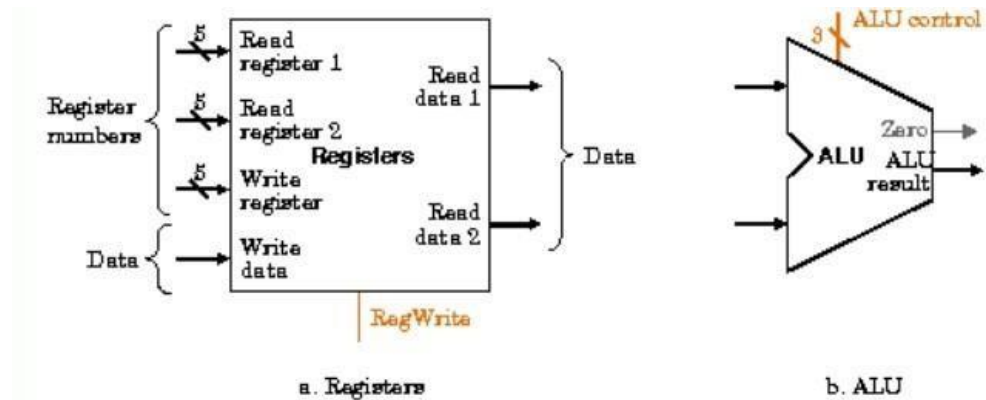

Fig 3.5: The two elements needed to implement R-format ALU operations are the register file and the ALU.
- ❖ If the instruction is a store, the value to be stored must also be read from the register file where it resides in \$t1. If the instruction is a load, the value read from memory must be written into the register file in the specified register, which is \$t1. Thus, we will need both the register file and the ALU from Figure 3.5.